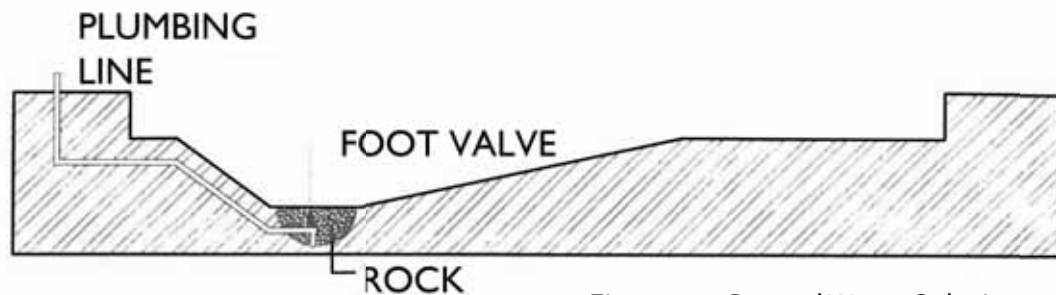

Figure 7: Ground W. Solution
4. Run a plumbing line from the hopper to near the filter (see Figure 7).